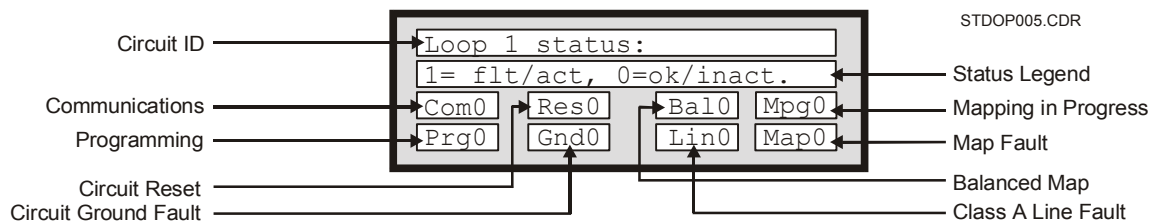

Figure 6: Loop status screen
3. Press Enter until you see the loop 1 status screen (Figure 6).